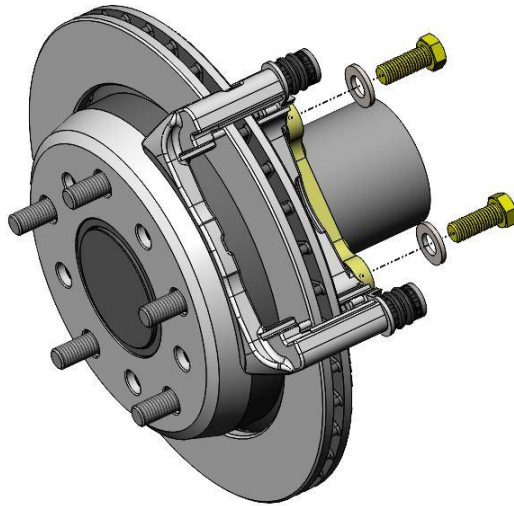

Figure 6 – Caliper Anchor Installation
10. Remove the Caliper Anchor Bracket from the caliper along with the brake pads. Install the Caliper Anchor Bracket over the rotor and position against the Secondary Caliper Mounting Bracket. Use the provided M12 Flat Washers and M12-1.75 x 30mm Hex Head Bolts and torque the bolts to 80 lb/ft. See Figure 6 on the next page for reference.